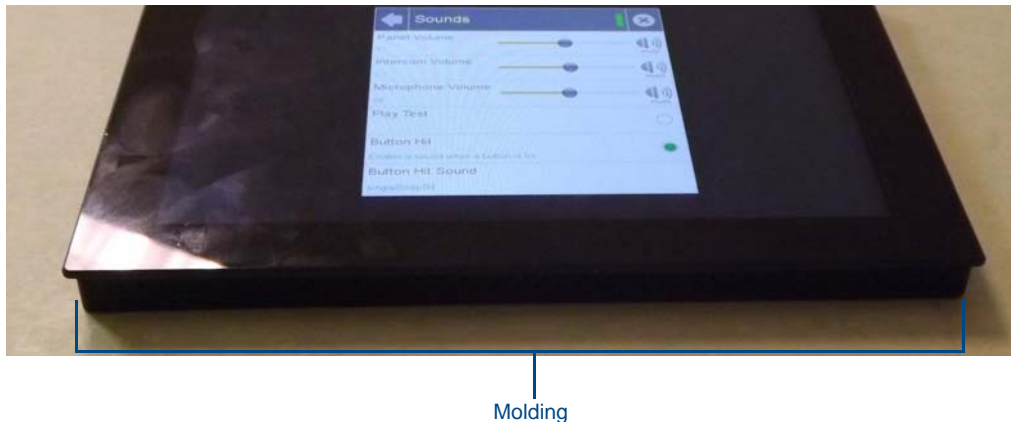

FIG. 19 Underside of MXD-700
The MXD-700 is held in place to the back box via latch hooks and clips on the back box (FIG. 19), securing it to the mounting surface. In certain circumstances, such as firmware updates or other maintenance that requires accessing the device's USB port, the device may need to be removed from the back box. The clips that lock down the MXD-700's bottom edge (Landscape) or right edge (Portrait) may be unlatched in order to remove the device from the mounting surface.
1. The bottom (Landscape) or right side (Portrait) of the MXD-700 has a series of ventilation holes along the molding (FIG. 19). From each end, count to the fifth holes on the center row.